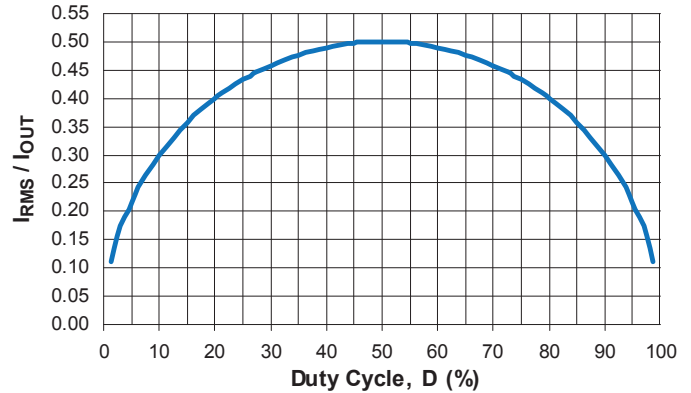

Figure 13: Normalized Input Capacitor Ripple versus Duty Cycle
Figure 13 shows the normalized input capacitor rms current versus duty cycle. To use this graph, simply find the operational duty cycle (D) on the x-axis and determine the input/output current multiplier on the y-axis. For example, at a 20% duty cycle, the input/output current multiplier is 0.40. Therefore, if the regulator is delivering 2.0 A of steady-state load current, the input capacitor(s) must support 0.40 × 2.0 A or 0.8 Arms.